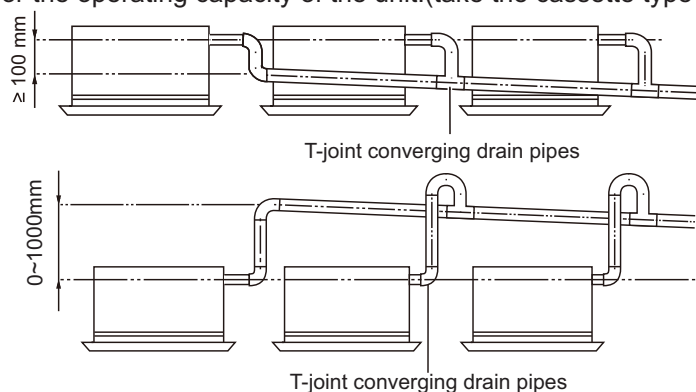

Figure 3-1-51
- (1). Insert the drain pipe to the drain outlet of the unit and then tighten the clamp securely with tape.
- (2). Connect the extension drain pipe to the drain pipe and then tighten the clamp with tape.
- (3). When unifying multiple drain pipes, install the pipes as Figure 3-1-51. Select converging drain pipes whose gauge is suitable for the operating capacity of the unit.(take the cassette type unit for example)